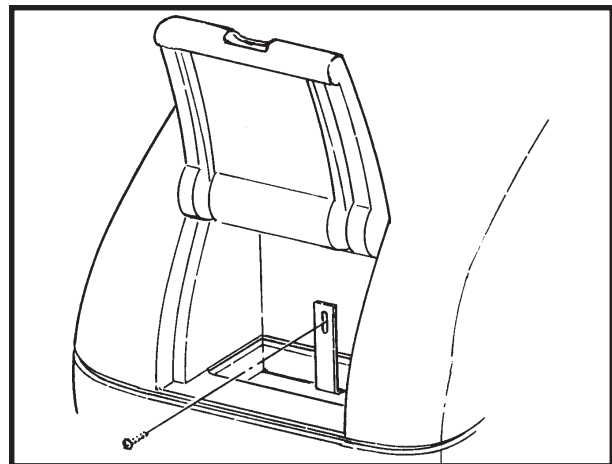

Figure 11
2. Check and clean the filter screen in the solution hose. To clean the screen, follow this procedure: (See figures 11 and 12 page 18)
#### **How to replace float switch, check ballast tanks, and vacuum motor. (See Figure 11)**